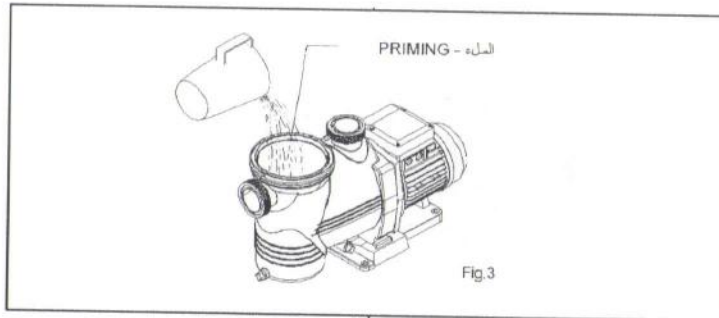

Fig.3
- For the correct operation of the pump, it must be primed until water reaches the surface of the suction pipe. In models with built-in pre-filter, the pump can be filled with water by opening the lid of the pre-filter (Fig. 3).
- For models with pre-filter the following operations can be performed (Fig. 3):